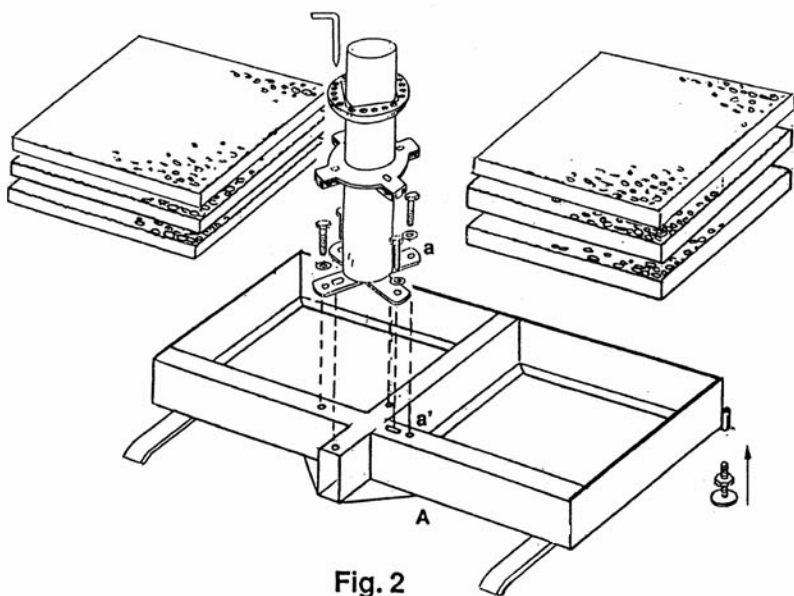

Fig. 2
**BASE ASSEMBLY** (fig. 2 - fig. 2 a): assemble the base as shown in fig 2 - place the four slabs in the base using the hook (B). The 2 adjustment screws (K) allow leveling of the base (A). **IMPORTANT:** always fix the 2 feet (I) at the base (A).